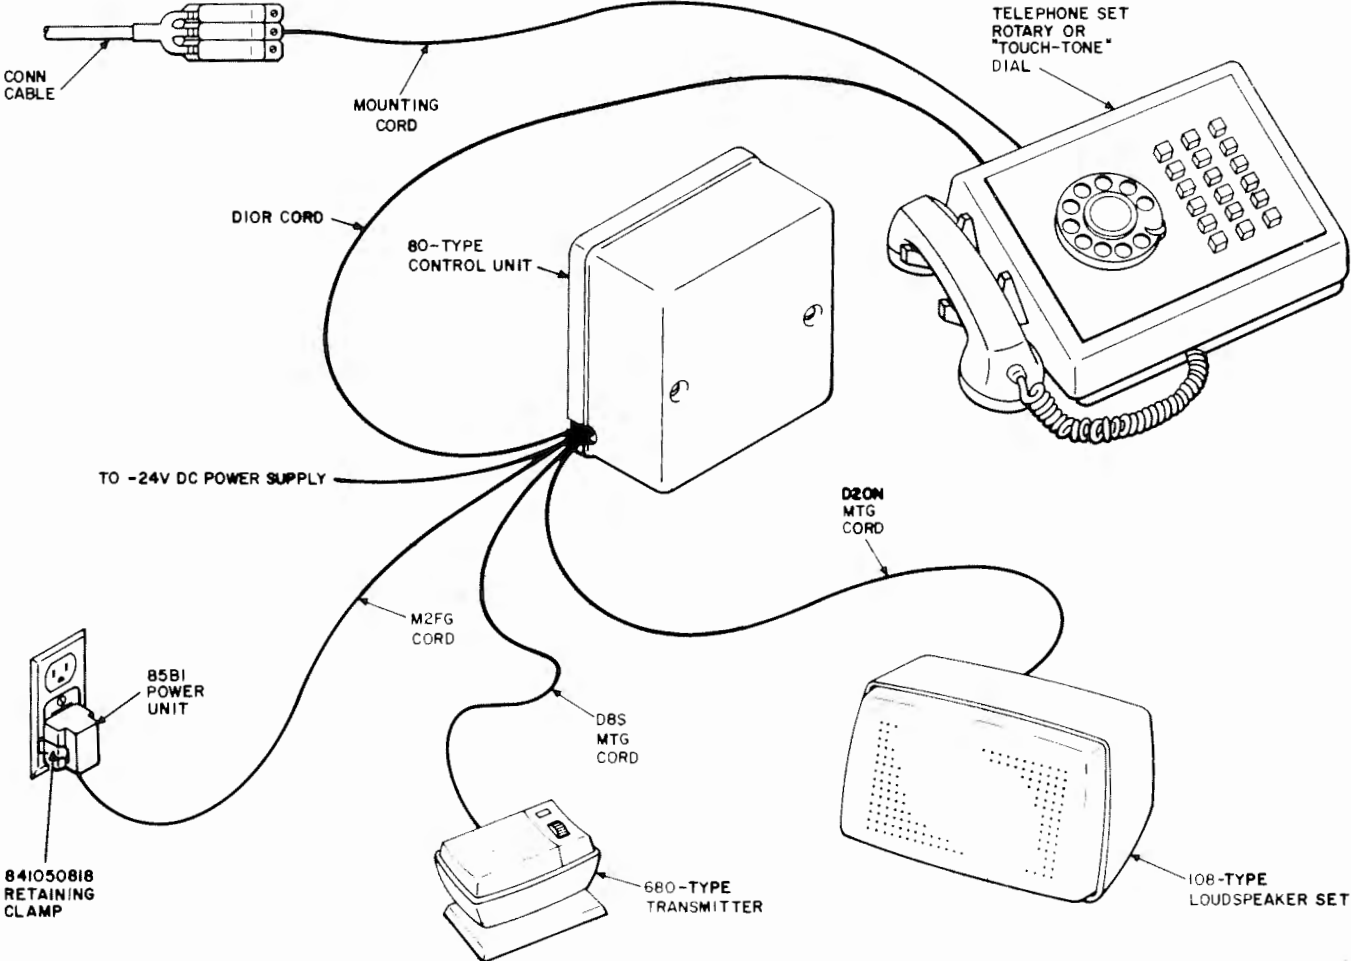

Fig. 2—Typical Arrangement of 4A Speakerphone System with 2- or 4-Wire Telephone Set
**2.19** The 80-type control unit (Fig. 2 and 7) provides for connecting the 4A speakerphone system to either a 2- or 4-wire telephone transmission network. All standard operating features of the 4A speakerphone system are retained. Attached to the chassis of the control unit is a connector (same as that used in the 223A adapter) to which the 108-type loudspeaker set, the 680-type transmitter and the 85B1 power unit are connected.